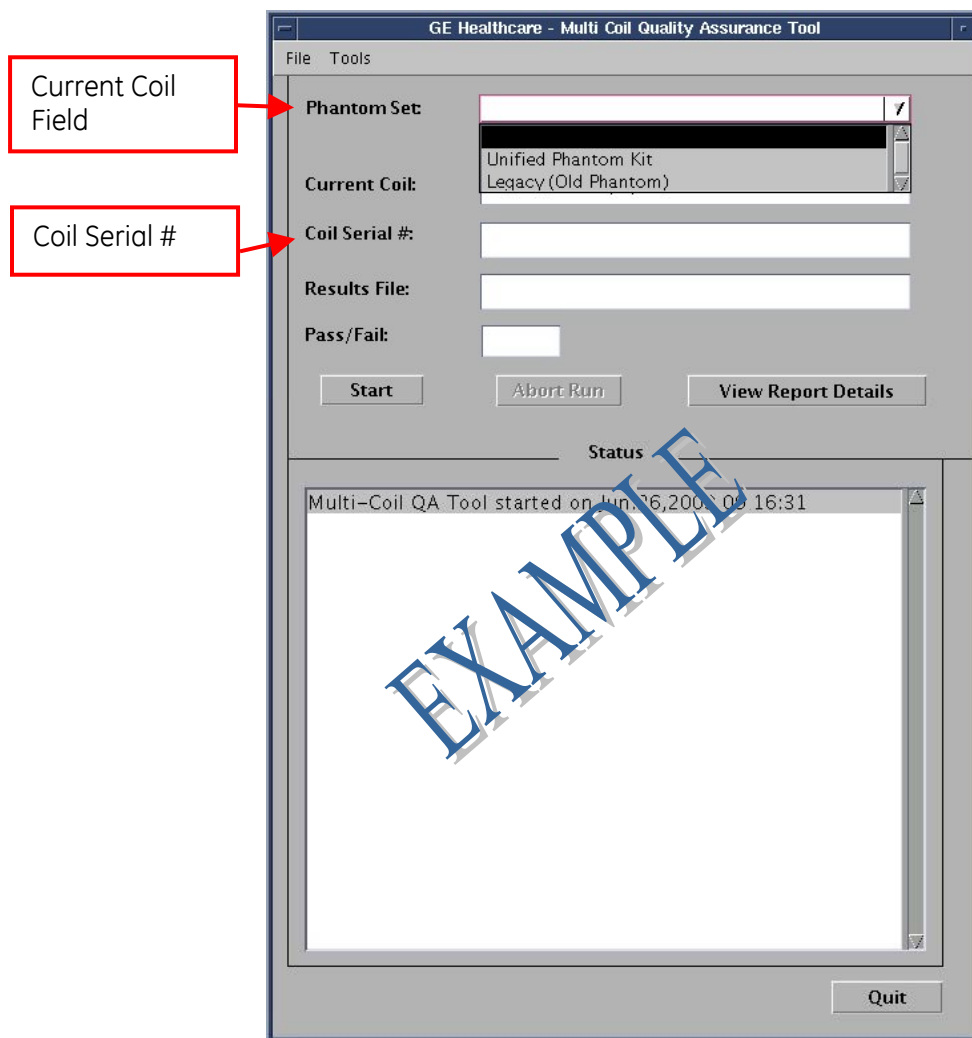

Figure 35
4. If a Legacy Phantom Set is being used, then select "Legacy (Old Phantom)" from the dropdown menu that is next to the Phantom Set field. If "Unified Phantom Set" is being used then select "Unified Phantom Kit" from the drop down menu (Figure 35).
5. The current coil field will be automatically filled in, based on the CoilID of the coil connected to the LPCA. Enter the serial number of the coil being tested in the Coil Serial number field. See Figure 35.